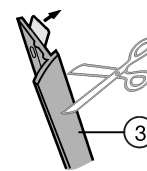

Fig. 15
- ▶ Remove the protective film from the cover trim Fig. 15 (3). Apply the strip on the side wall of the appliance on the handle side and flush with the front and glue on.
- ▶ If necessary, shorten the cover trim Fig. 15 (3) at the bottom.\*